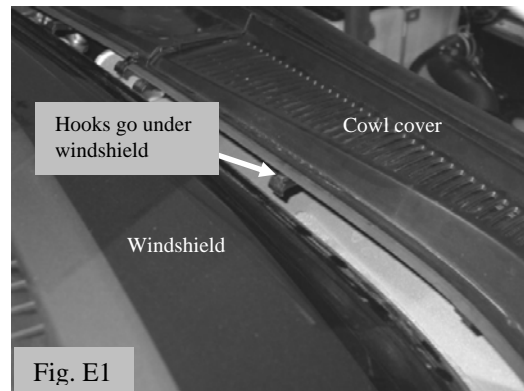

Fig. E1
i. Be sure the hooks on the bottom of the cowl cover engage the bottom of the windshield. (Fig. E1)